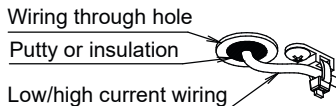

Figure 6
- Prevent entry of small animals such as insects, by blocking the through hole for low and high current using the putty or thermal insulation material (field supply) so there are no gaps, see the Figure 6.